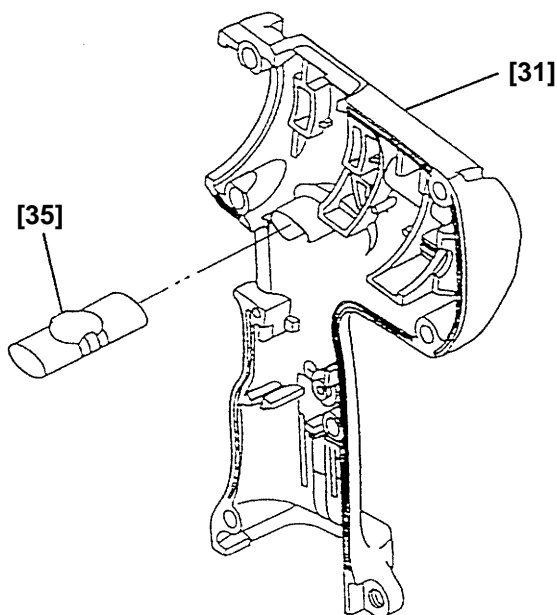

Fig. 14
- (5) Installation of the assembly reassembled in step (3) into Housings (A) and (B) **[31]**
- (a) Install the Pushing Button **[35]** into Housing (B) **[31]**. (See Fig. 14.)